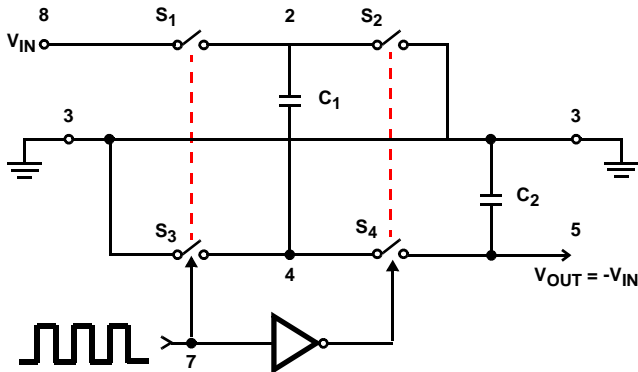
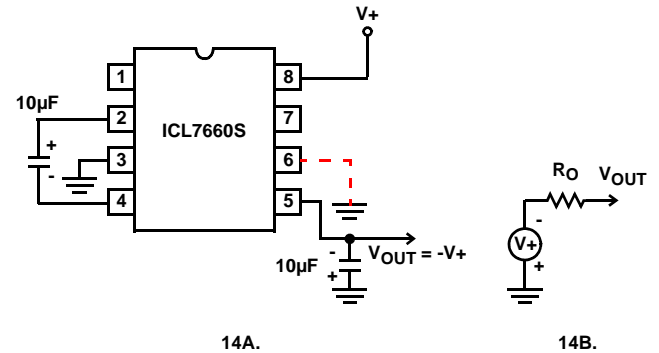
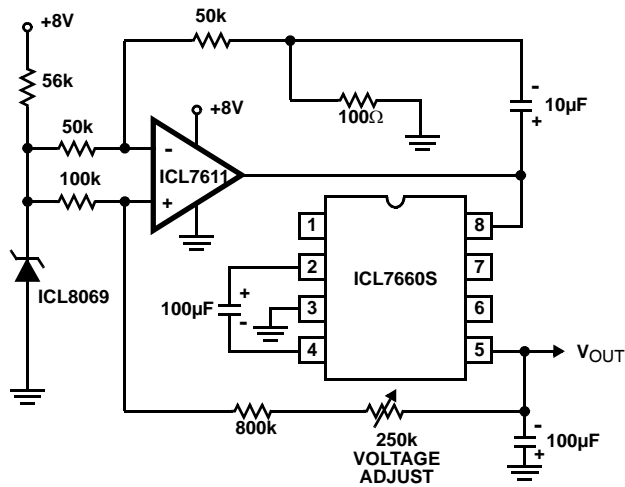

FIGURE 13. IDEALIZED NEGATIVE VOLTAGE CONVERTER
FIGURE 14. SIMPLE NEGATIVE CONVERTER AND ITS OUTPUT EQUIVALENT
FIGURE 20. REGULATING THE OUTPUT VOLTAGE
In the ICL7660S, the 4 switches of Figure 13 are MOS power switches;  $S_1$  is a P-Channel devices and  $S_2$ ,  $S_3$  and  $S_4$  are N-Channel devices. The main difficulty with this
where  $V_1$  and  $V_2$  are the voltages on  $C_1$  during the pump and transfer cycles. If the impedances of  $C_1$  and  $C_2$  are relatively high at the pump frequency (refer to Figure 13) compared to the value of  $R_L$ , there will be substantial difference in the voltages  $V_1$  and  $V_2$ . Therefore it is not only desirable to make  $C_2$  as large as possible to eliminate output voltage ripple, but also to employ a correspondingly large value for  $C_1$  in order to achieve maximum efficiency of operation.
The majority of applications will undoubtedly utilize the ICL7660S for generation of negative supply voltages. Figure 14 shows typical connections to provide a negative supply where a positive supply of +1.5V to +12V is available. Keep in mind that pin 6 (LV) is tied to the supply negative (GND) for supply voltage below 3.5V.
The output characteristics of the circuit in Figure 14 can be approximated by an ideal voltage source in series with a resistance as shown in Figure 14B. The voltage source has a value of  $-(V^+)$ . The output impedance ( $R_0$ ) is a function of the ON resistance of the internal MOS switches (shown in Figure 13), the switching frequency, the value of  $C_1$  and  $C_2$ , and the ESR (equivalent series resistance) of  $C_1$  and  $C_2$ . A good first order approximation for  $R_0$  is:
The ICL7660S may be employed to achieve positive voltage doubling using the circuit shown in Figure 20. In this application, the pump inverter switches of the ICL7660S are used to charge  $C_1$  to a voltage level of  $V_+ - V_F$  (where  $V_+$  is the supply voltage and  $V_F$  is the forward voltage on  $C_1$  plus the supply voltage ( $V_+$ ) is applied through diode  $D_2$  to capacitor  $C_2$ . The voltage thus created on  $C_2$  becomes  $(2V_+) - (2V_F)$  or twice the supply voltage minus the combined forward voltage drops of diodes  $D_1$  and  $D_2$ .
Figure 21 combines the functions shown in Figure 14 and Figure 20 to provide negative voltage conversion and positive voltage doubling simultaneously. This approach would be, for example, suitable for generating +9V and -5V from an existing +5V supply. In this instance capacitors  $C_1$  and  $C_3$  perform the pump and reservoir functions respectively for the generation of the negative voltage, while capacitors  $C_2$  and  $C_4$  are pump and reservoir respectively for the doubled positive voltage. There is a penalty in this configuration which combines both functions, however, in that the source impedances of the generated supplies will be somewhat higher due to the finite impedance of the common charge pump driver at pin 2 of the device.